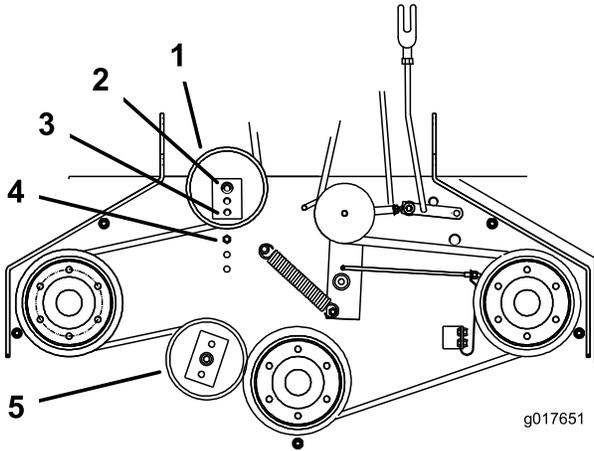

Figure 48
- If there is no adjustment left in the turnbuckle and the belt is still loose, the rear idler pulley needs to be positioned to the middle or front hole (Figure 48). Use the hole that will give the correct adjustment.
- When the idler pulley is moved the belt guide must be moved. Move the belt guide to the front position (Figure 48).